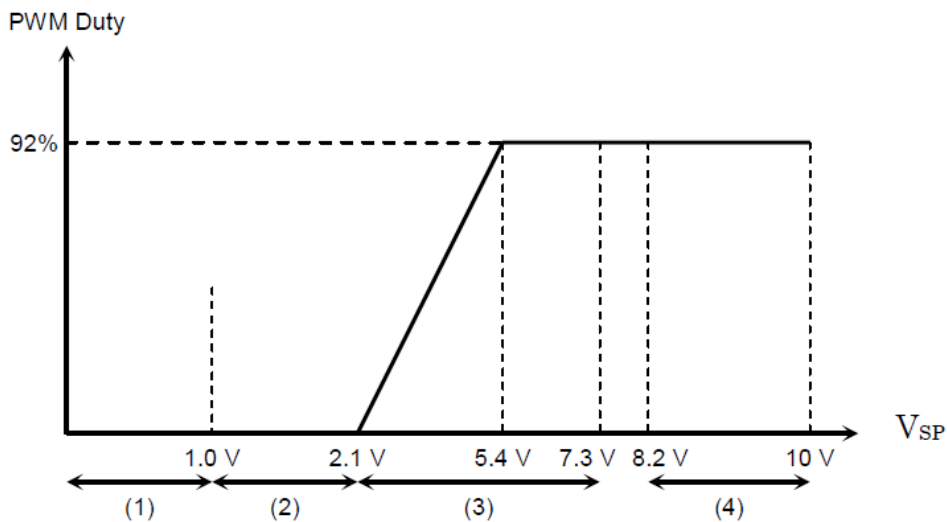

Figure 3.3 Controlling the motor rpm via the V_{SP} voltage
The motor rpm can be controlled via the DC voltage applied to the V_{SP} pin of the TB6634FNG. Figure 3.3 shows the relationship between the V_{SP} voltage and the PWM duty cycle. The TB6634FNG allows the motor rpm to be controlled when V_{SP} is in the voltage range of (3).